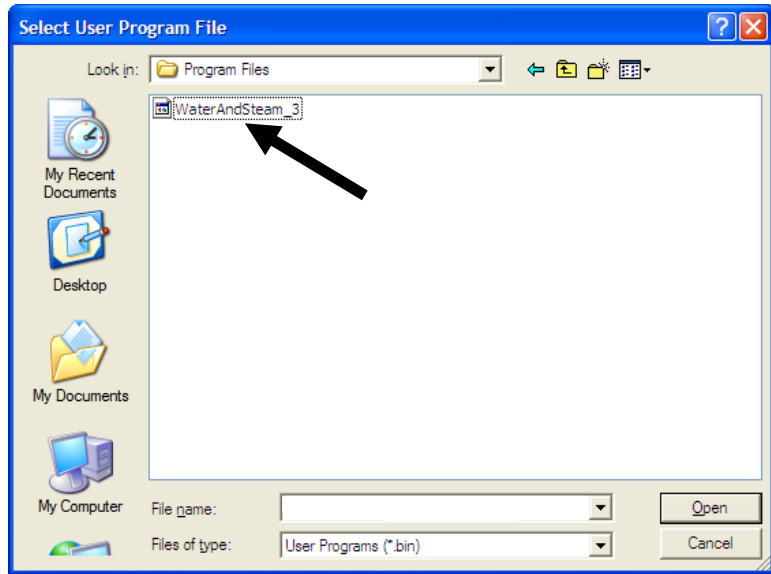

Figure 5. Select User Program File
4. Click **Browse** in the Download User Program File frame. The Select User Program File screen displays (see *Figure 5*).
5. Select the path and user program file to download from the CD-ROM. (Program files are typically located in the Program Files folder on the CD-ROM). As *Figure 5* shows, the screen lists all valid user program files with the .BIN extension: